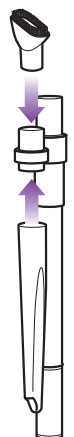

Fig. 10
- 7 Store the dusting brush and the crevice tool on the mounts of the accessory holder. (Fig. 10)